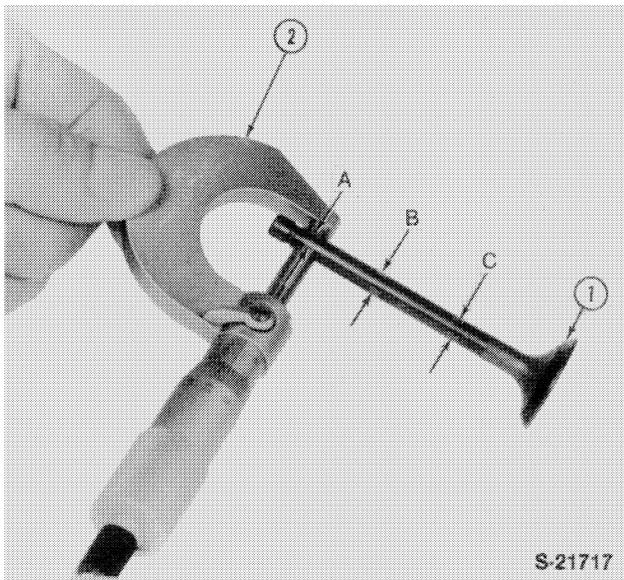

FIGURE 1-33
2. Using a micrometer measure the valve stem at points “A,” “B” and “C,” Figure 1-33.
Valve seat grinding requires that the seat be ground to the correct width and positioned as shown, Figure 1-33.